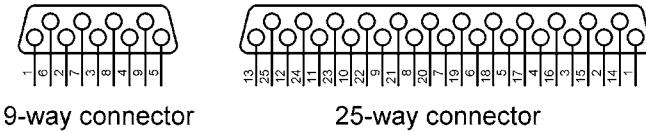

Figure 7.2: RS-232 connectors.
In serial communication a minimum of three lines are used for communication: transmit (TX), receive (RX), and ground (GND). Some high-speed serial communication systems use additional control signals for synchronization, such as CTS, DTR, and so on. Some systems use software synchronization techniques where a special character (XOFF) is used to tell the sender to stop sending, and another character (XON) is used to tell the sender to recommence transmission. RS-232 devices are connected to each other using two types of connectors: 9-way connector, and 25-way connector. Table 7.1 shows the TX, RX, and GND pins of each types of connectors. The connectors used in RS232 serial communication are shown in Figure 7.2.